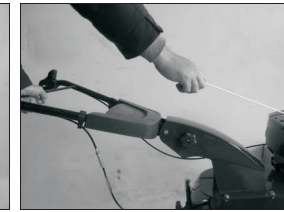

Fig. 14B
3. Standing behind the unit, pull the starter grip lightly until you feel resistance then pull briskly. Return the starter grip gently. Once the engine starts, set the throttle lever on a suitable position. (Fig. 14B)